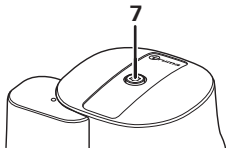
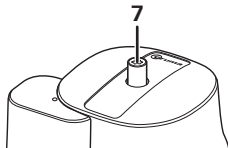

Figure 2a
Figure 2b
The crash sensor has a reset button, the position of which indicates its status: “Ready for operation” position (Figure 2a) or “not ready for operation” position (Figure 2b).
To reset, press the yellow reset button (7) firmly, turn it slightly clockwise, hold it for 10 seconds and ensure that it stays in the “ready for operation” position (Figure 2a).
- Press in the triggering element of the crash sensor (9) sufficiently far that the yellow reset button (7) comes out so that the crash sensor is in the “not ready for operation” position (figure 2b).
- Remove the screw cap (10) from the test connection and connect the test pump with test hose to the test connection.
- Press the yellow reset button (7), turn it slightly clockwise, hold it for 10 seconds and ensure that it remains in the “ready for operation” position (see Figure 2a).
- It is essential to reattach the screw cap (10) every time after it has been removed.